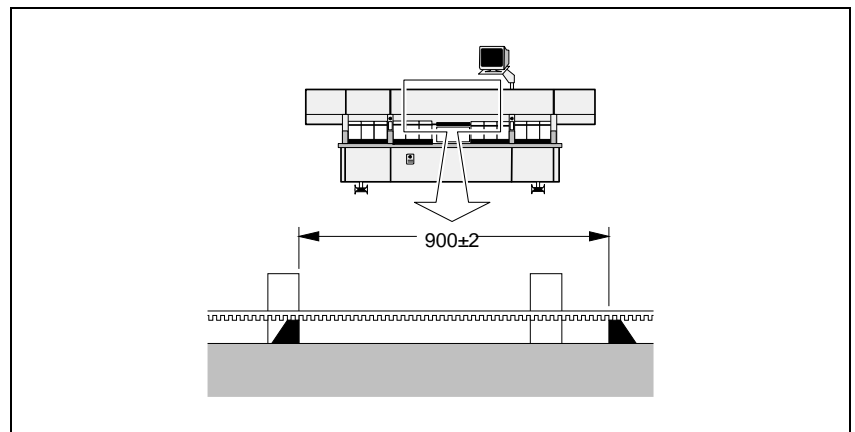

Figure 4-3. Measuring the X belt tension
2. Move the X wagon to its leftmost position, see Figure 4-3.
3. Put the two prisms on the X rail with the flat edge upwards as shown in Figure 4-3, under the X belt upper part. They should be placed with a spacing of $900\text{mm} \pm 2\text{mm}$.